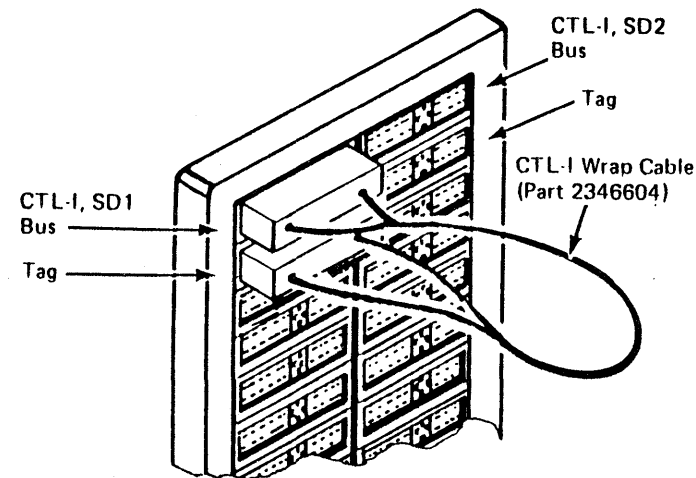

Figure 1. CTL-I Wrap Connection Shown for SD1, on 3880 Model 21
1. Connect the CTL-I wrap cable as shown in Figure 1. Ensure that connections are made to the storage director being tested, as instructed by the MD display. If channel wrap tests have already been run, ensure that the channel wrap tool is disconnected.